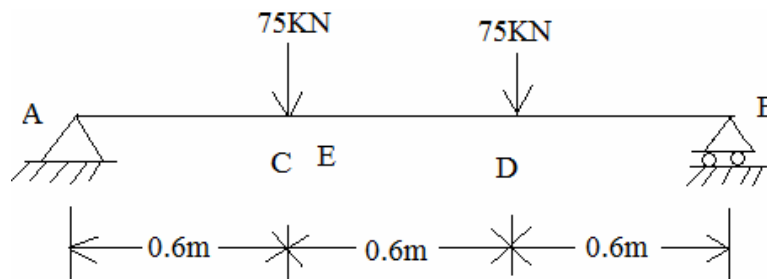

Fig.4
6. Compute the slopes and deflections at A and at mid-span E for the simply supported beam. The span of the beam is 1.8m and the beam is of 150 mm × 300 mm, $E=30\text{KN/mm}^2$. (Fig.4). [15]